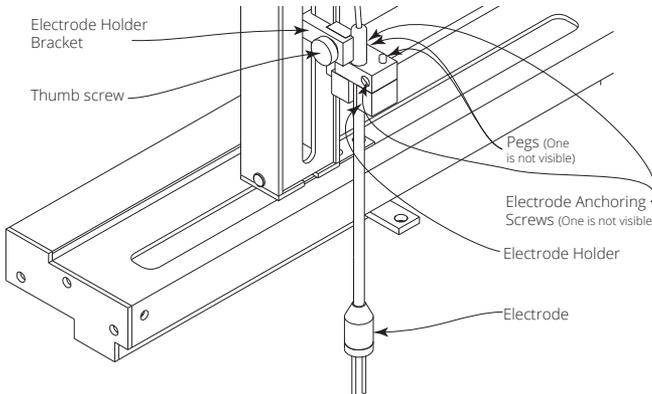

Fig. 10 — Installing the REMS electrode
- To install the electrode holder, slide it fully into place on the electrode holder bracket and secure it with the supplied thumb screw. Fig. 10 shows the location where the electrode holder is installed on the vertical arm of the **REMS**.